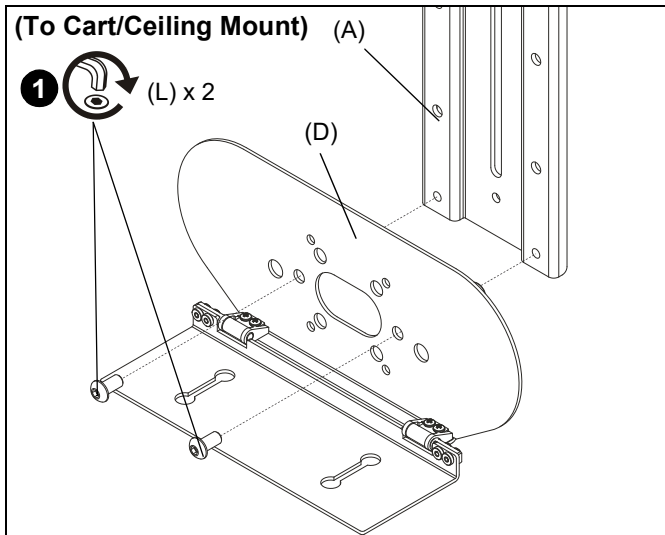
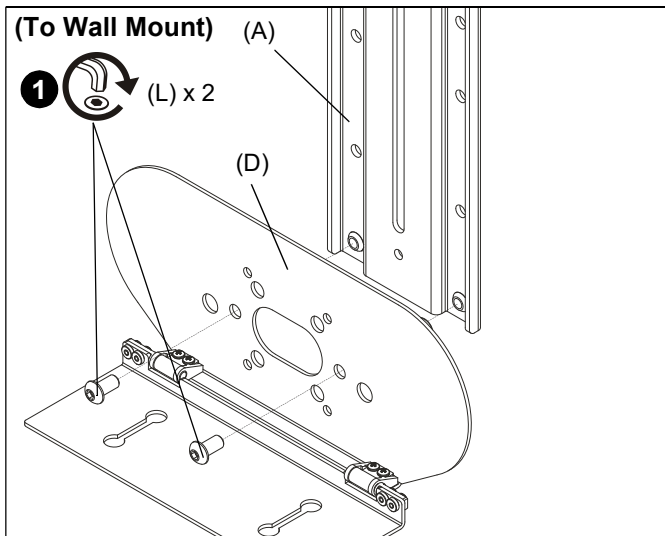

Figure 1
Figure 2
1. Attach shelf (D) to upright bracket (A) using two 1/4-20 x 1/2" button head machine screws (L). (See Figure 1) or (See Figure 2)